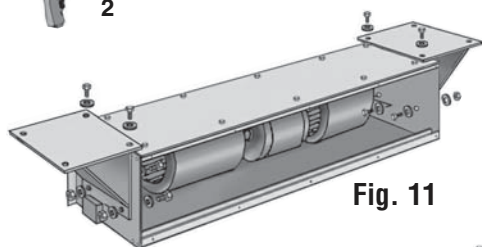

Fig. 11
4. Using bolts and washers on the top and bolts, washers, and nuts on the side panels, secure both brackets to the unit. (See Fig. 11)